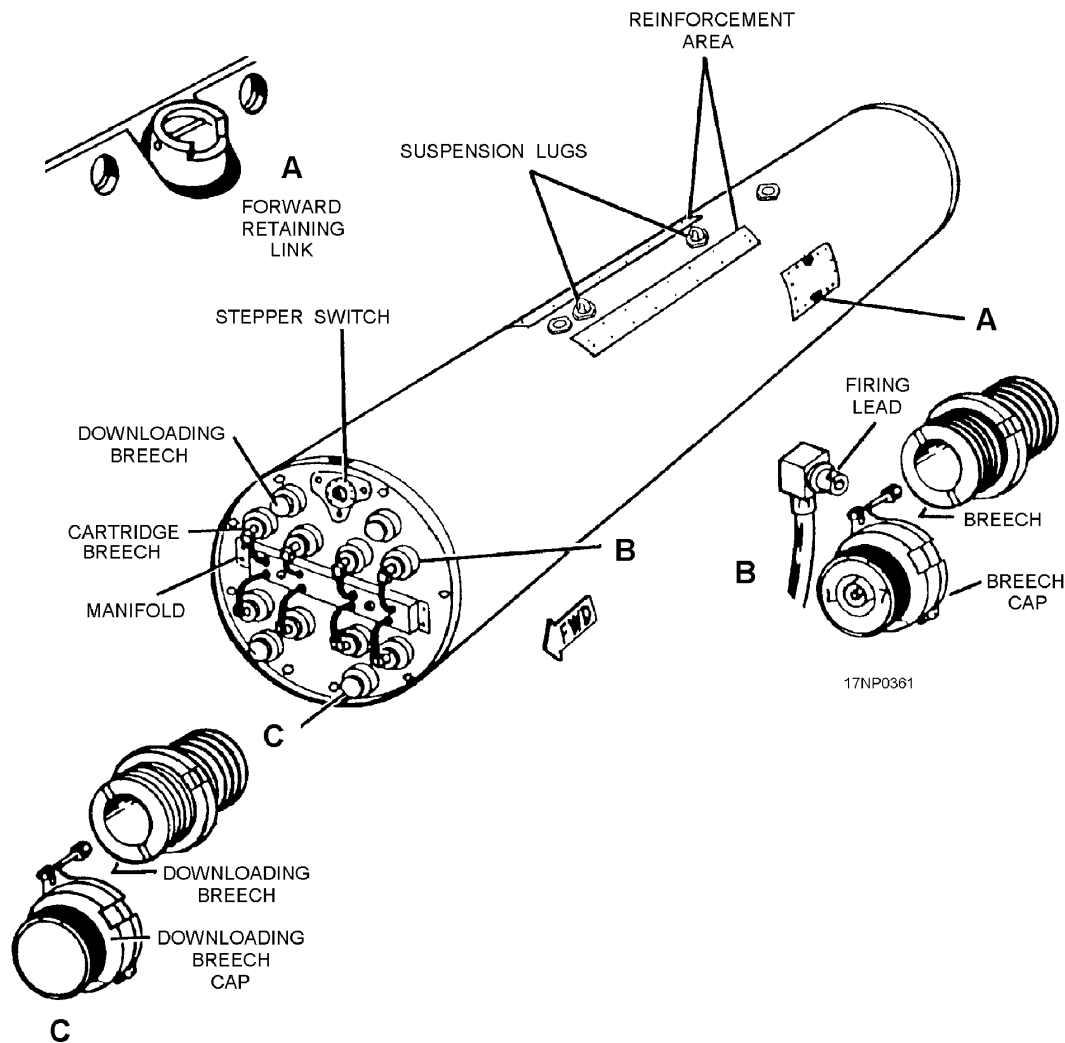

Figure 13-30.—SUU-25F/A downloading breeches.
5. Open four downloading breech caps (fig. 13-30).